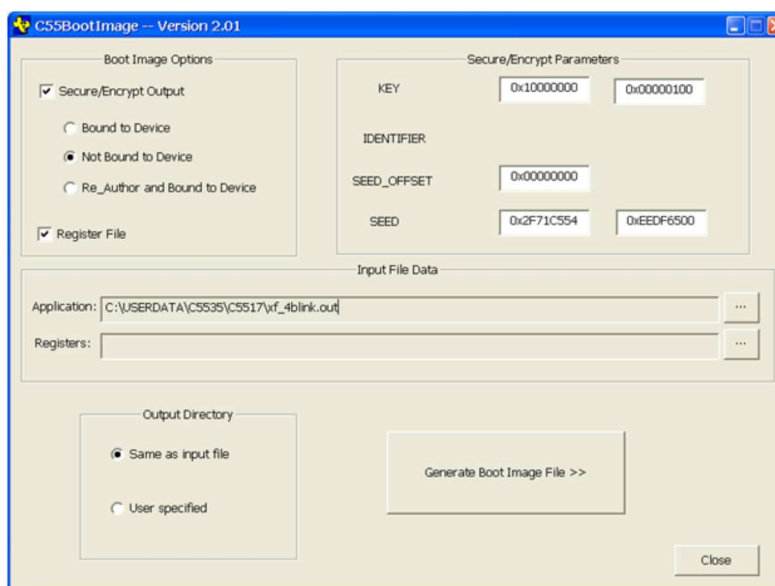

Figure 1. Creating an Encrypted Boot Image: Not Bound to Device
- Not Bound to Device (Figure 1)